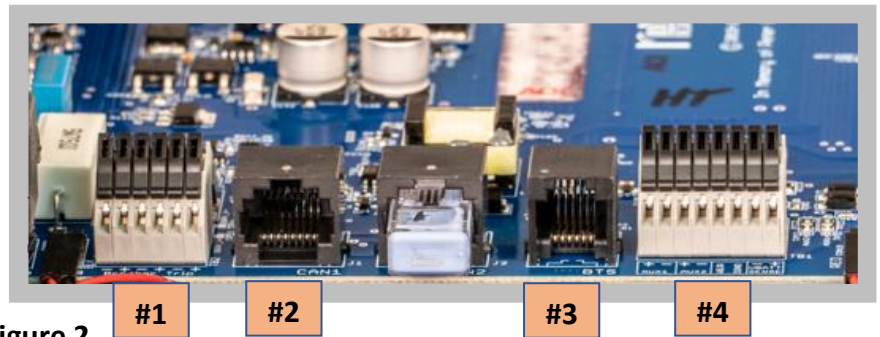

Figure 2
## BARCELONA CONNECTIONS (Figures 2, 3, & 4)
1. Connect the phone jack of the BTS into the BTS receptacle on the Barcelona control board, as marked by #3 in **Figure 2**.
1. Connect the WBJr’s purple wire to the terminal block, #4, as shown in **Figure 2**.